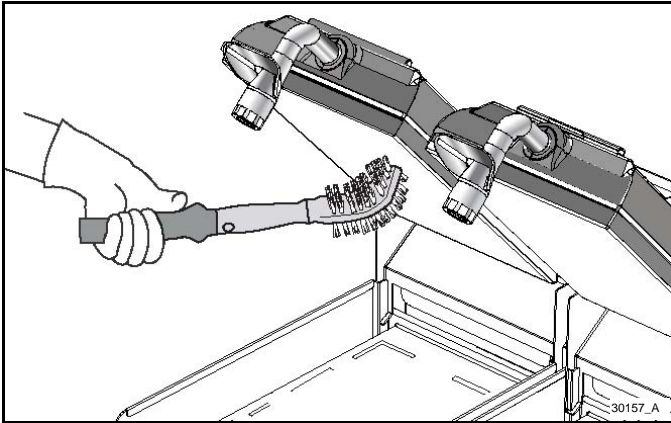

Figure-185
20. After the cycle is completed and the upper platens have risen, scrub the flat surface, edges, and sides of the upper platens with the Kay® double sided grill brush. Scrub until the soil liquefies. See Figure-185.